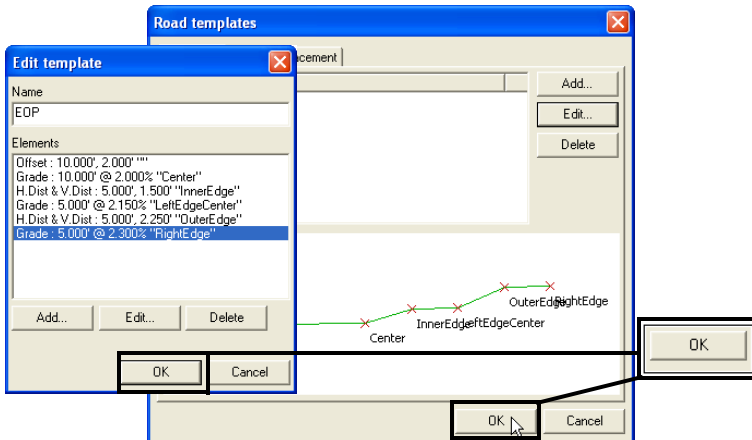

Figure 6-18. Save Template
- Press **OK** to save template. Press **OK** again to save the template to the file (Figure 6-18).